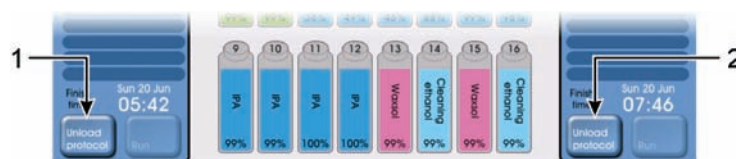

Figure 66: Unload protocol buttons — retort A (1) and retort B (2)
11. Select the **Unload protocol** button from the appropriate protocol panel so the retort is available for the next protocol (see Figure 66).